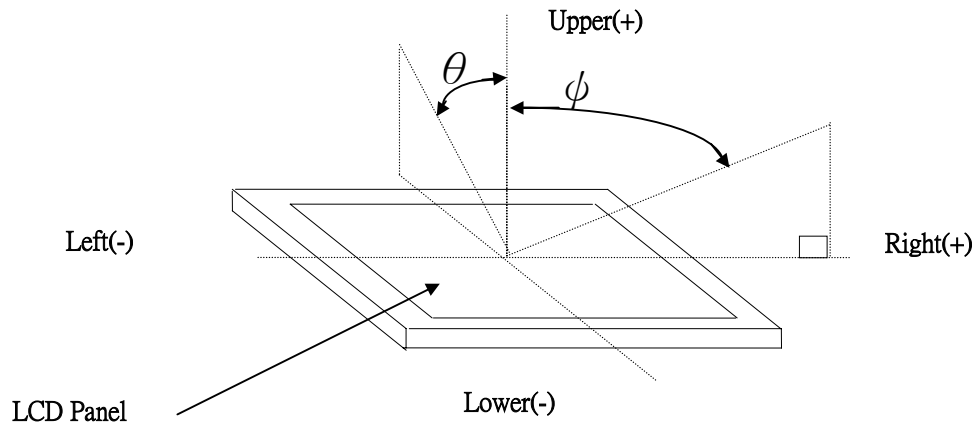

Fig.2 Definition of Viewing Angle
*3) Definition of Viewing Angle(θ , ϕ),refer to Fig.2 as below :